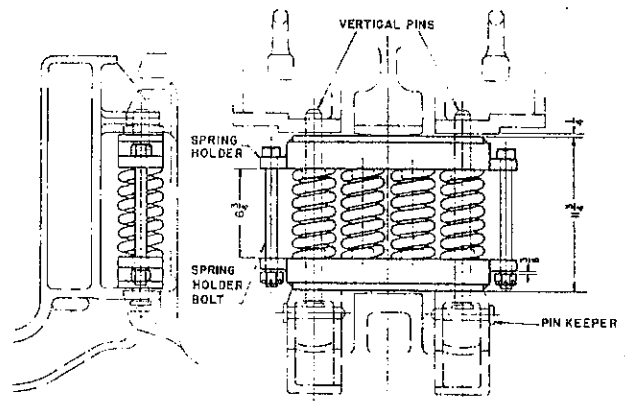

Fig. 12 - TRACTION MOTOR NOSE SUPPORT
4. Remove all motor nose suspension spring nests as follows. See Fig. 12.